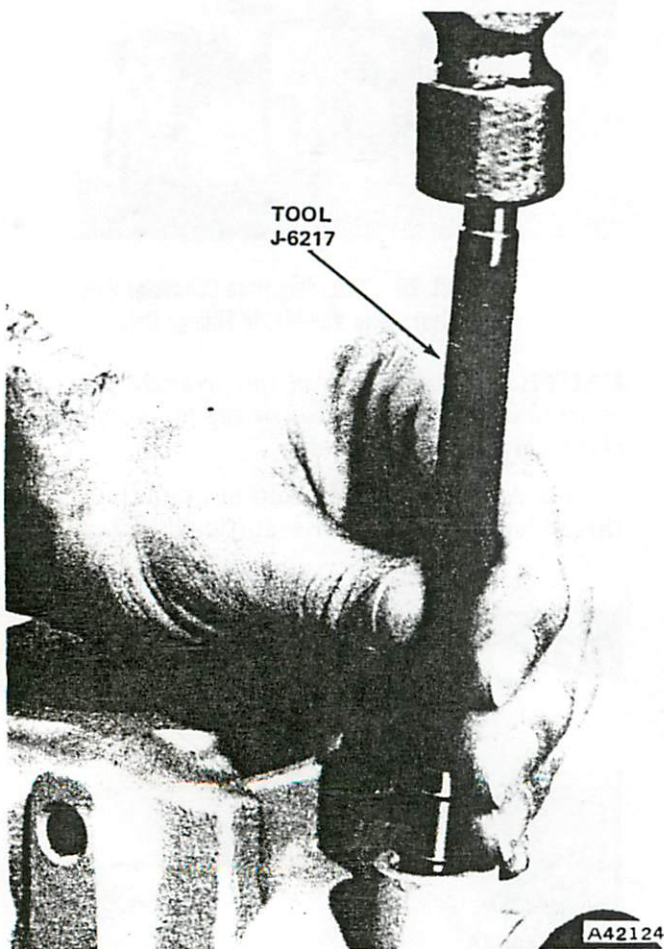

Fig. 2L-22 Hose Connector Seat Installation
(4) Place wrench on bolt to prevent it from turning and tighten nut against housing to remove seat.
(5) Remove check valve and spring from pressure port and discard both parts, they are not reuseable.
(6) Clean housing thoroughly to remove metal chips and shavings, dirt, and petroleum jelly.
(7) Install replacement check valve spring in pressure port. Be sure spring is seated in pressure port counterbore and large end of spring faces downward.
(8) Install replacement check valve over spring so valve tangs face downward. Be sure valve is centered on small end of spring.
(9) Coat replacement pressure port connector seat with petroleum jelly and position seat on top of check valve.
(10) Insert replacement return port connector seat in port.
(11) Install both seats using Tool J-6217 (fig. 2L-22).